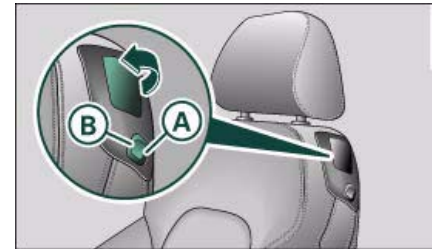

Fig. 75 Driver's seat: easy-entry controls
- Pull up the lever ⇒ fig. 75.